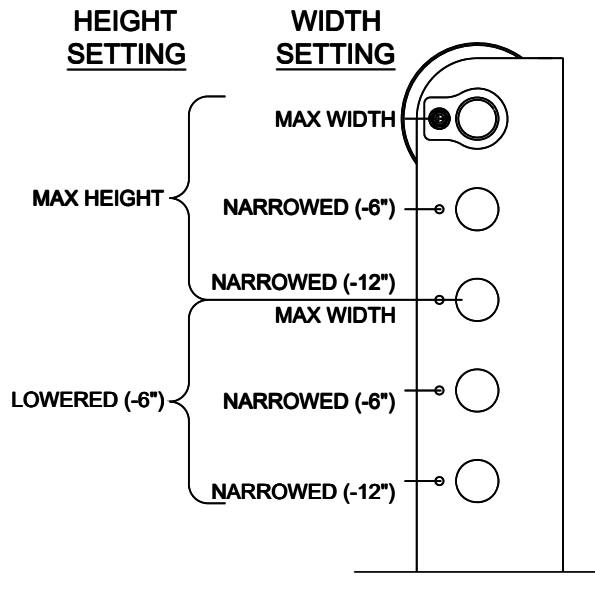

Fig. 2 –Sheave Position in Lower Bracket
- 6) Determine the sheave location on the lower bracket based on the overall height and width of the lift at its chosen configuration. Use the General Specifications table from **page 2** and **Fig 2** below.